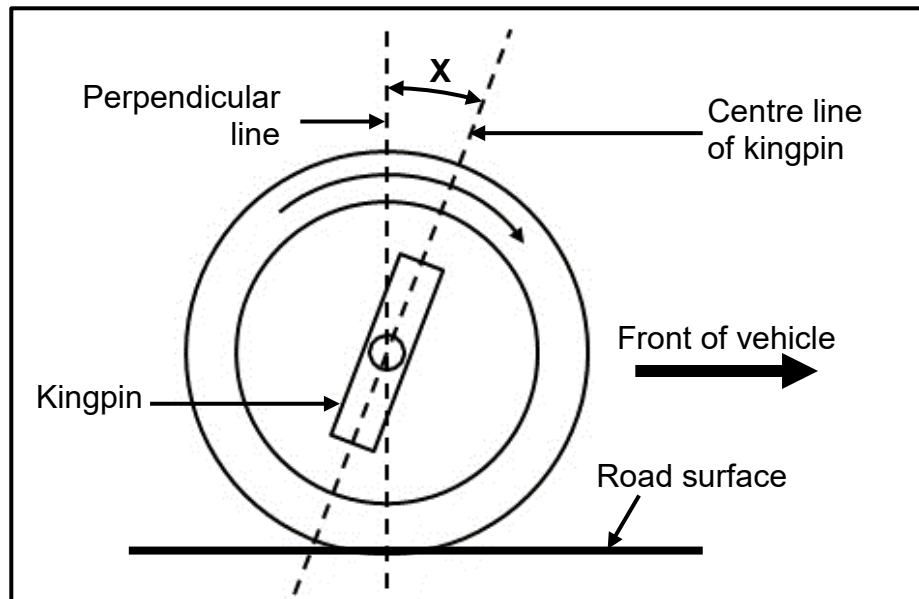

FIGURE 4.12
4.12 Identify the wheel alignment angle 'X' as shown in FIGURE 4.12 below.